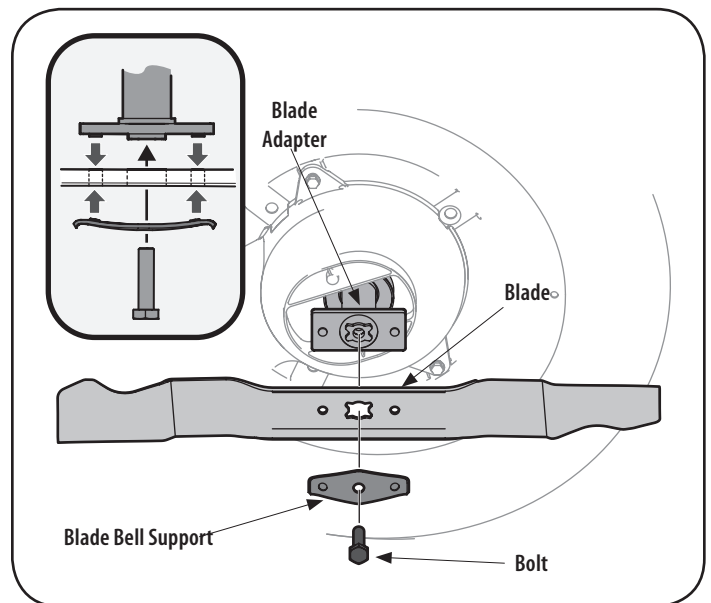

Figure 25
3. Remove the bolt and the blade bell support which hold the blade and the blade adapter to the engine crankshaft. See Figure 25.
6. Lubricate the engine crankshaft and the inner surface of the blade adapter with light oil. Slide the blade adapter onto the engine crankshaft. Place the blade on the adapter such that the side of the blade marked "Grass Side" (or with part number) faces the ground when the mower is in the operating position. Make sure that the blade is aligned and seated on the blade adapter flanges. See Figure 25 inset.